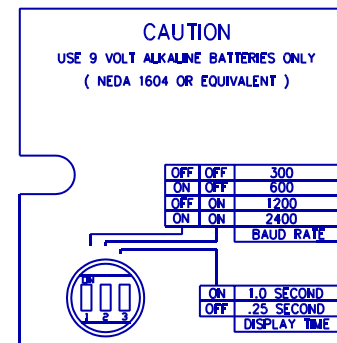

Figure 4. Battery Compartment Internal Switches.
**PRINT** - Pressing the PRINT button causes serial ASCII data to be transmitted from the print jack at appropriate RS-232 levels. This data may be sent to a serial printer or a computer. The baud rate is determined by two switches located in the battery compartment. (See Figure 4, Battery Compartment Internal Switches, for switch settings).
There is an internal switch located in the battery compartment that is accessible to the user. (Refer to Figure 4.)